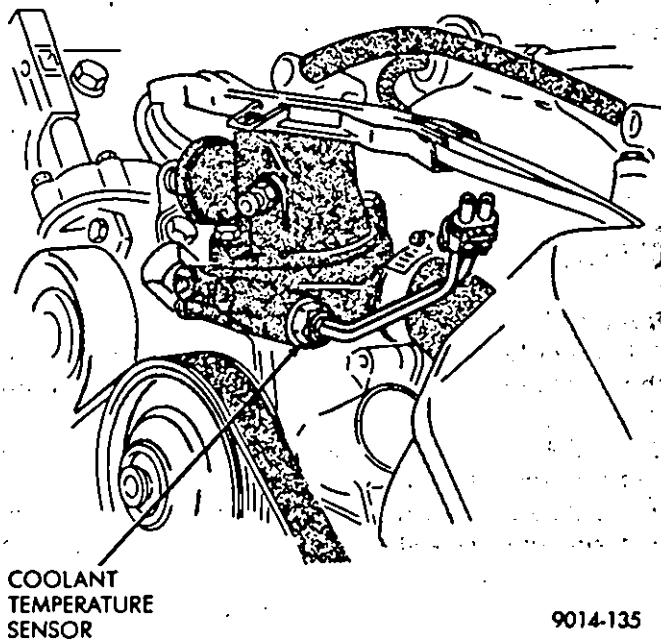

Fig. 5—Coolant Temperature Sensor Removal/Installation
The coolant temperature sensor is located in the thermostat housing, above the water pump (Fig. 5).
- (1) Disconnect electrical connector.
- (2) Remove coolant temperature sensor and immediately plug the opening in the water pump (Fig. 5).